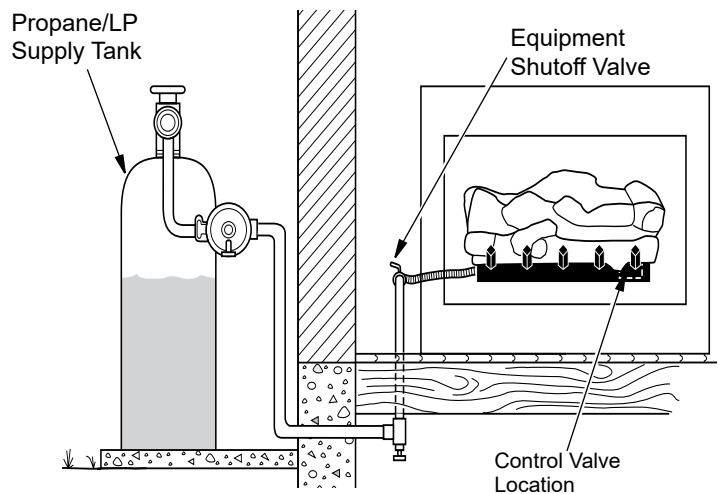
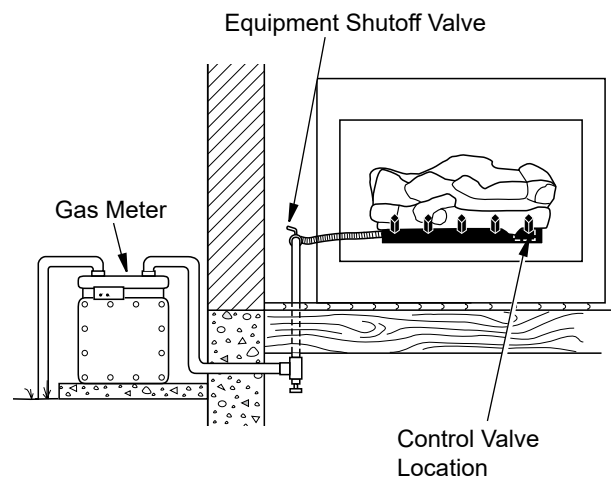

Figure 13- Checking Gas Joints (Propane/LP Only)
Figure 14 - Checking Gas Joints (Natural Gas Only)
3. Check all joints from gas meter to equipment shutoff valve for natural gas or propane/LP supply to equipment shutoff valve for propane/LP (see Figure 13 or Figure 14). Apply noncorrosive leak detection fluid to all joints. Bubbles forming show a leak.
4. Check all joints from gas meter to equipment shutoff valve for natural gas or propane/LP supply to equipment shutoff valve for propane/LP (see Figure 13, or Figure 14, page 8). Apply noncorrosive leak detection fluid to all joints. Bubbles forming show a leak.